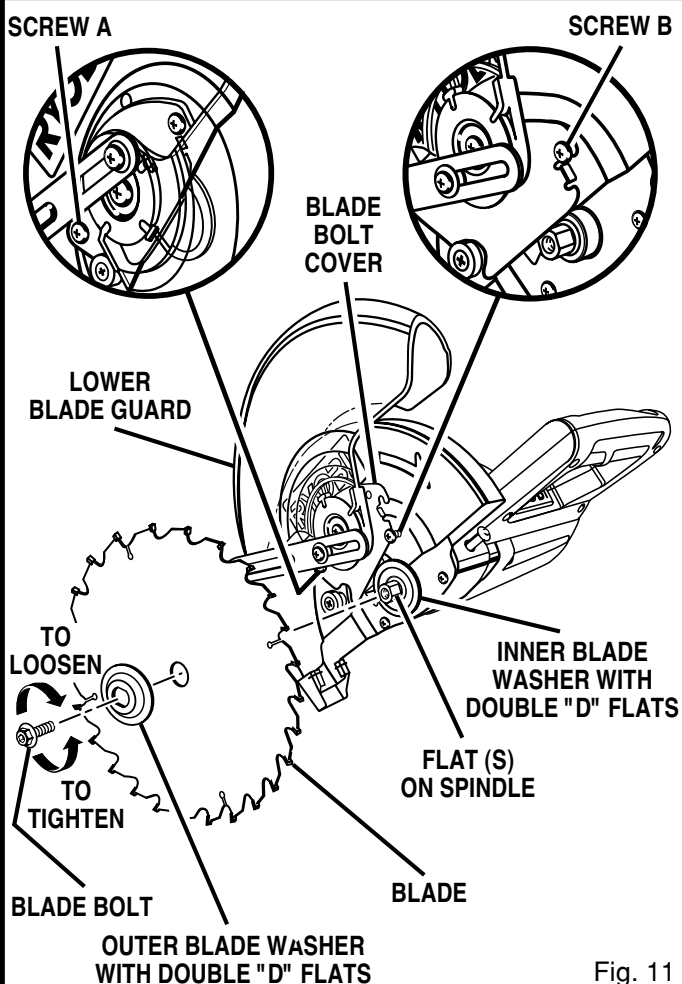

Fig. 11
- Fit saw blade inside lower blade guard and onto spindle. The blade teeth point downward at the front of saw as shown in figure 11.